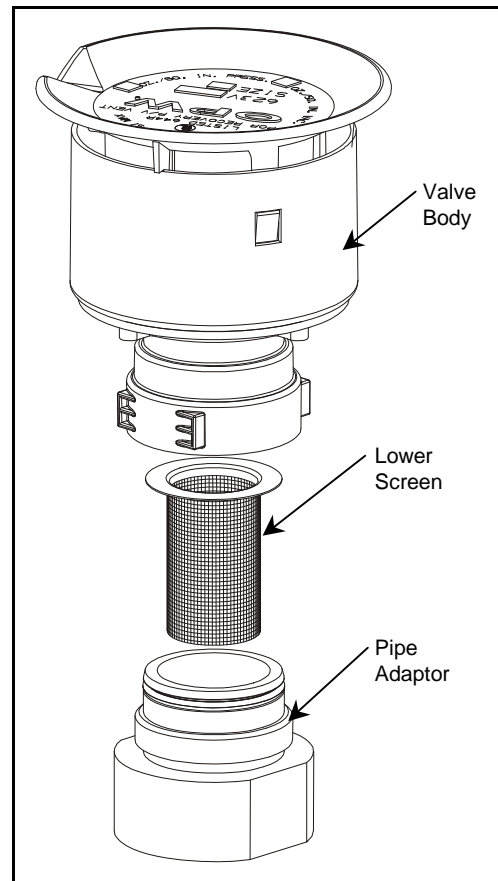

Figure 4
(Fig. 4) Wrench C05102M can be used
3. Reinstall filter screen in the pipe adaptor (see Fig. 4 for orientation).